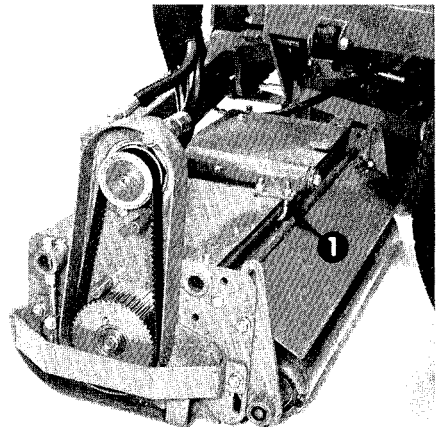
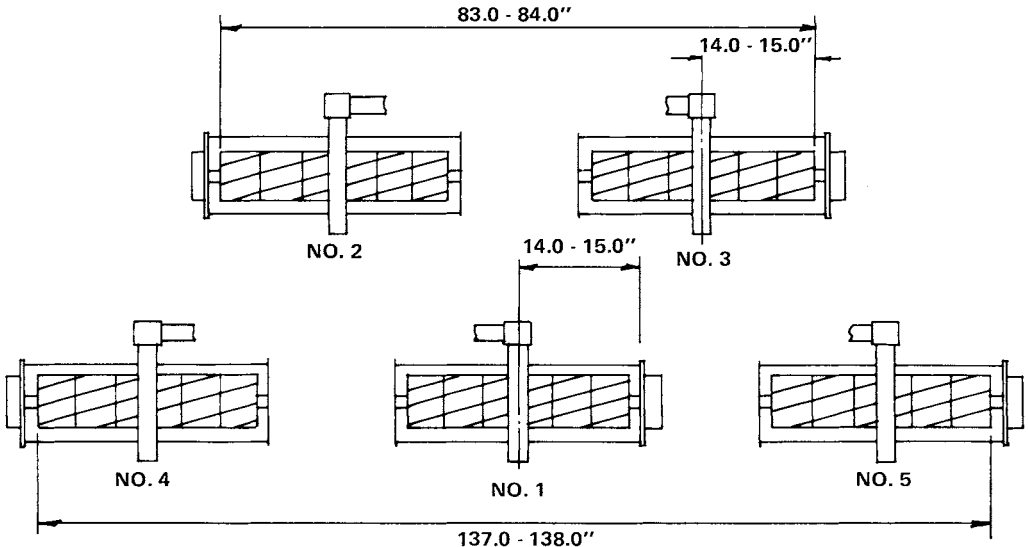

Figure 3
Figure 4
5. Loosely mount cutting units to lift arm pivot brackets with U-bolts, lock washers and nuts (Fig. 3). Each cutting unit should be positioned so there is 14.0-15.0 inches (35.6-38.1 cm) from inside of outermost side plate to center of cutting unit pivot pin (Fig. 4).
- a. Dimension from outer end of reel blade on #2 cutting unit to outer end of reel blade on #3 cutting unit to be 83.0-84.0 inches (2.11-2.13m) (Fig. 4).
- b. Dimension from outer end of reel blade on #4 cutting unit to outer end of reel blade on #5 cutting unit to be 137-138 inches (3.47-3.49m) (Fig. 4).
7. Remove (2) cap screws securing drive belt cover to drive plate housing and remove cover.
8. Remove (2) locknuts securing shipping cover to drive plate housing and remove cover. Do not remove drive plate shield.